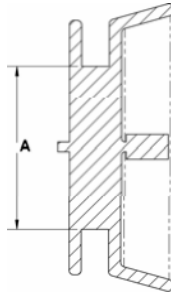

Figure 1. Schematic of device indicating measurement of the waist diameter (A). Waist diameter determines the device size.
**Device size refers to the waist of device as illustrated in Figure 1.*